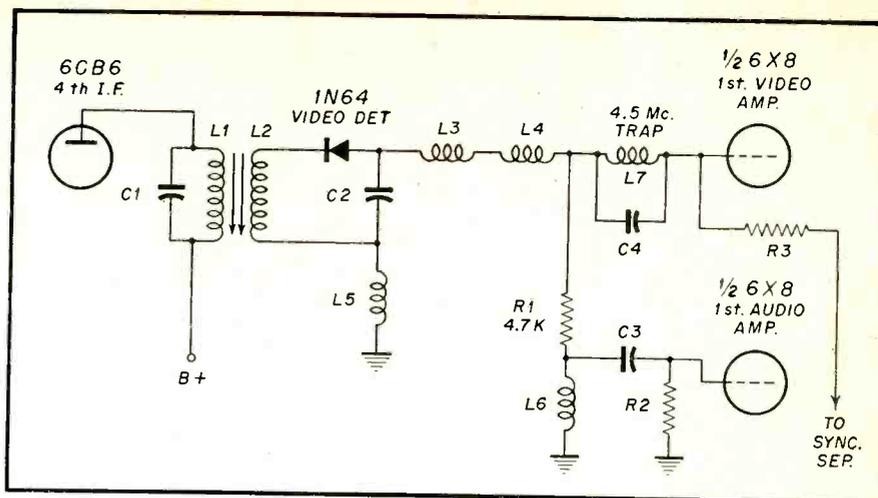

Fig. 2—Modern version of detector circuit used in intercarrier receivers.
*Figure 2* illustrates a typical video detector circuit. This is used in the Capelhart CX-36 chassis, and similar circuits are to be found in other receivers. Here, a 1N64 germanium crystal is used instead of the vacuum tube diode detector. This eliminates the need for filament current and simplifies the circuit to some degree.  $C2$  is the filter circuit previously mentioned which tends to bypass the i-f frequencies and keeps them from entering the subsequent circuit.  $L3$ ,  $L4$ ,  $L5$ , and  $L6$  are the conventional peaking coils.  $R1$  is the load resistor for the video detector across which the composite video signal is developed as well as the 4.5 sound i-f signal.  $C3$  is used to couple the 4.5 megacycle signal directly to the grid of the first audio i-f stage. As previously mentioned, in such a system an additional stage is used to build the sound i-f signal up to the required level for application to the detector. Inasmuch
With the use of a germanium crystal such as shown in *Fig. 2*, similar defects can occur in picture quality if the crystal rectifier becomes defective or partially defective. Of course, since there is no filament, the hum bar symptom would not occur. When the crystal decreases in its rectification characteristic, however, deficiencies in picture quality will occur. On occasion when a crystal starts to develop a defect it is incapable of reproducing the composite video signal up to the required 3.5 or 4 megacycles for good picture detail.
Fig. 2—The 6AS7-G has lower plate resistance than any other readily available power tube. This enables it to produce in the above circuit a damping factor of 8, even without any inverse feedback.
The source impedance of the amplifier should not be confused with the rating of the output transformer taps. The source impedance must of course be related, when given, to a particular tap. It makes little difference which tap is mentioned, since it is the *ratio* which matters. The source impedance is the value which the speaker "looks at" or "sees" back through the transformer. It is the plate resistance of the output stage, stepped down by the impedance ratio of the transformer. Examine Fig. 2, in which a very low plate resistance tube, the 6AS7-G twin power triode is demonstrated to present a very low source impedance to the load.